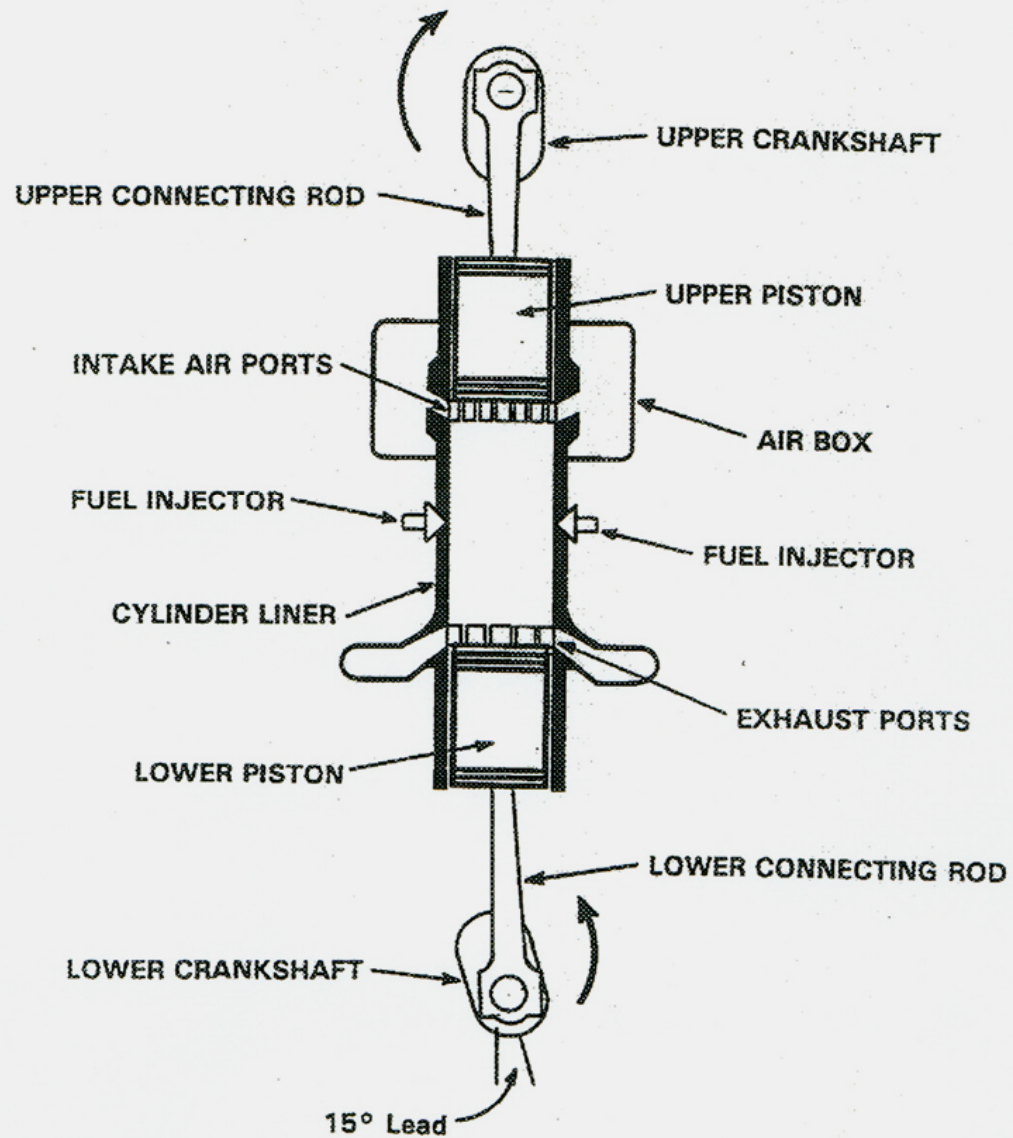

Figure 2-19
- The configuration and sequence of events that occur in a Fairbanks Morse opposed piston 2-stroke cycle engine are illustrated in Figures 2-19 through 2-22.